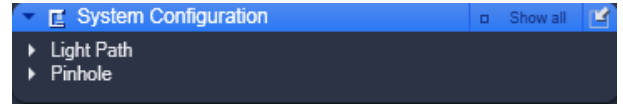

Fig. 22 The System Configuration tool box
- Click on the tab **System Configuration** to activate the panel (Fig. 22). Click on any other tab to leave the panel. You have two options: